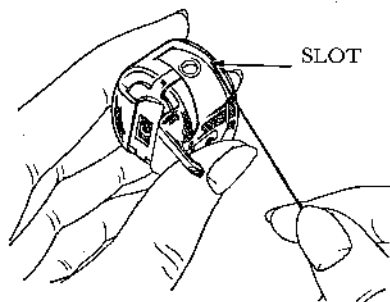

Fig. 2
- 5) Pass the end of the thread through the hole in the bobbin from inside to outside. (Fig. 2)
Guide the thread into the slot in the edge of the bobbin case (Fig. 2).
Loosen the needle clamp screw (B) at the end of the needle bar, and insert the needle (C), with the flat side (Fig. 2) to the right, into the slot of the needle bar.